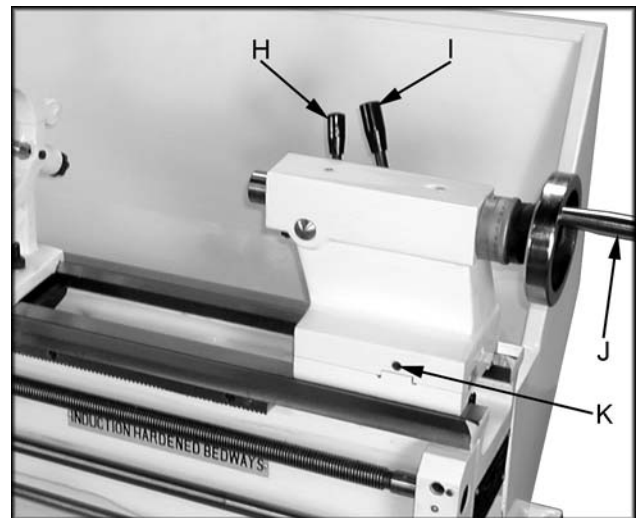

Fig. 13
21. **Tailstock Quill Clamping Lever (H, Fig. 13)** - Lift up to lock the spindle. Push down to unlock.
22. **Tailstock Clamping Lever (I, Fig. 13)** - Lift up lever to lock. Push down lever to unlock.
23. **Tailstock Quill Traverse Handwheel (J, Fig. 13)** - Rotate clockwise to advance the quill. Rotate counter-clockwise to retract the quill.
24. **Tailstock Off-Set Adjustment (K, Fig. 13)** - Three set screws located on the tailstock base are used to off-set the tailstock for cutting tapers. Loosen lock screw on tailstock end. Loosen one side set screw (K, Fig. 13) while tightening the other until the amount of off-set is indicated on scale. Tighten lock screw.